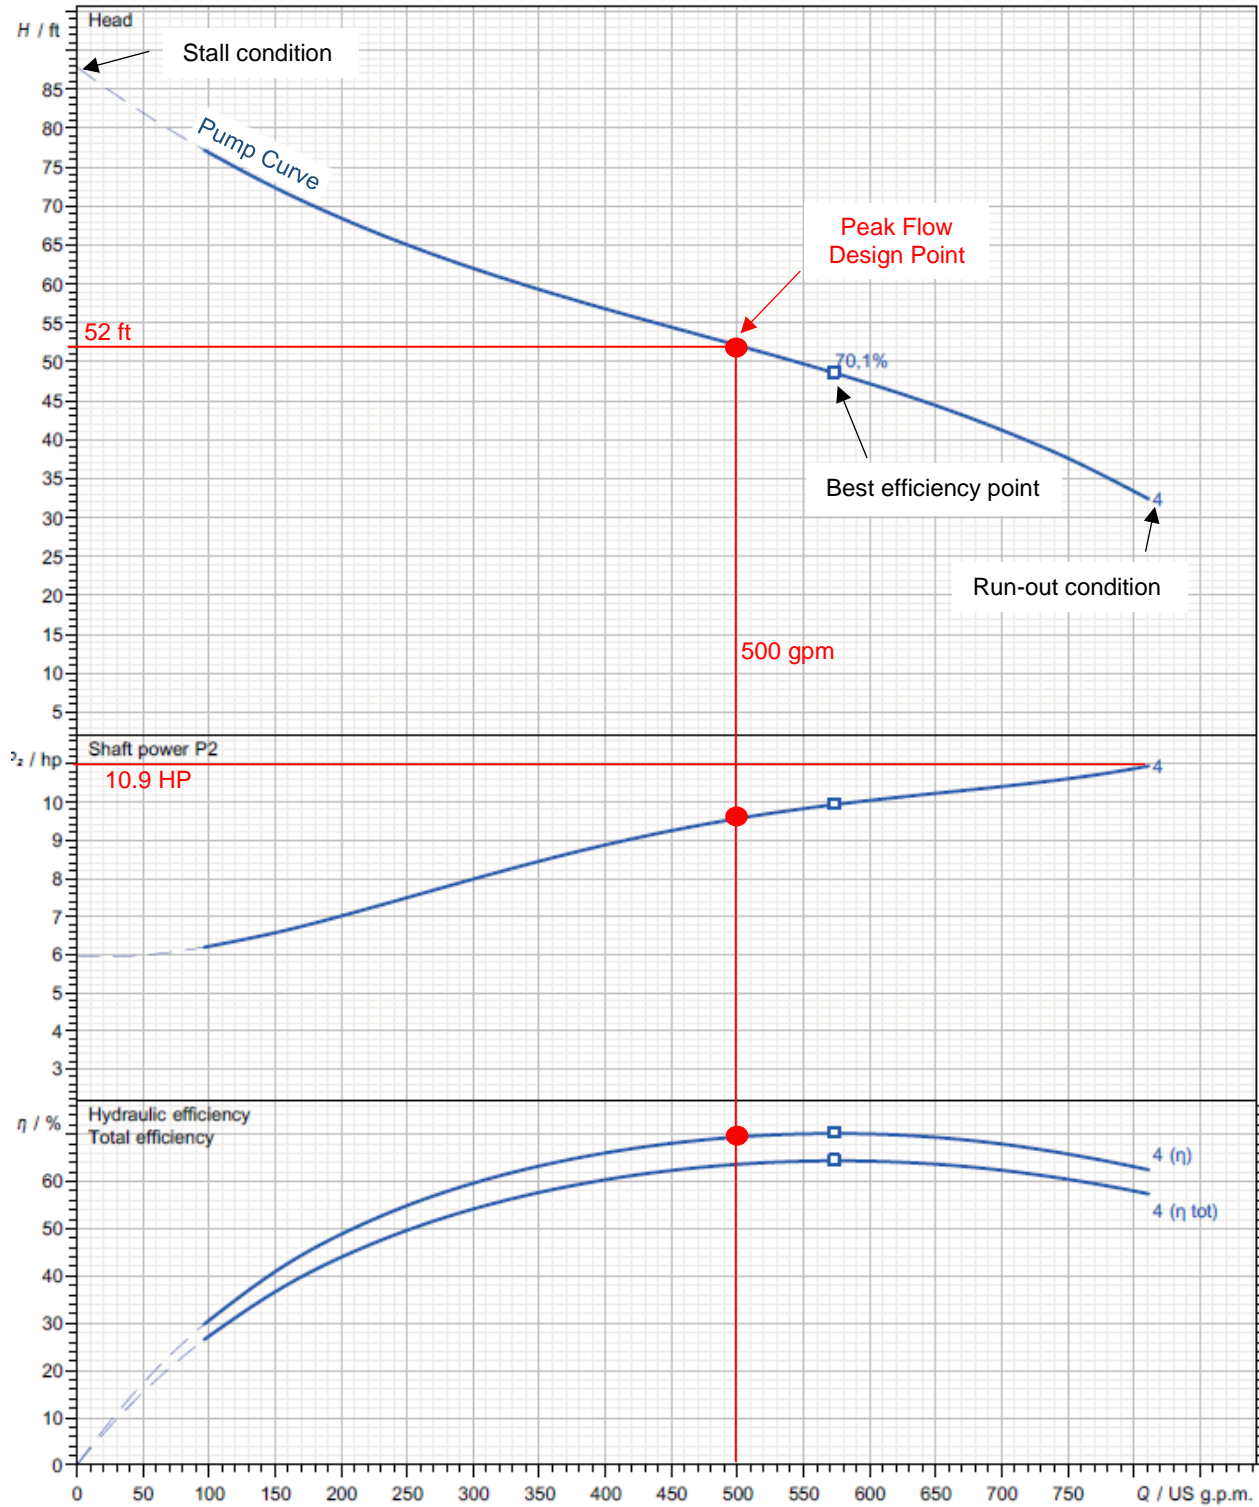
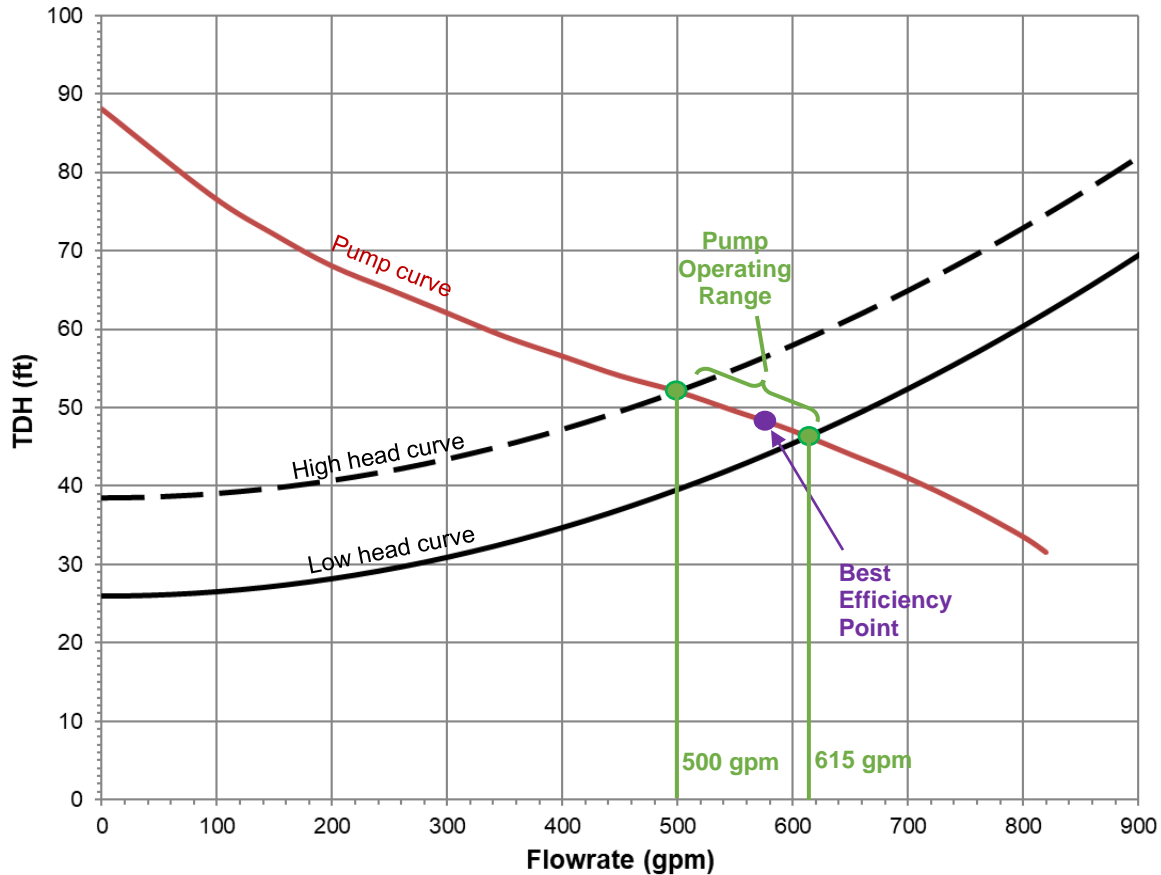

Figure 23: Manufacturer pump curve.
Figure 24: Plot of the pump curve and the system curves, showing the best efficiency point within the pump design operating range of 500 to 615 gpm.
See Figure 23 for the manufacturer pump curve and Figure 24 for a plot including both the pump curve and the system curves using excel.
The shaft power (HP) curve is shown in the center region of Figure 23. The greatest power is 10.9 HP at the far right of the curve. This is divided by the motor efficiency of around 90%, and multiplied by a service factor, which gives the minimum motor HP: